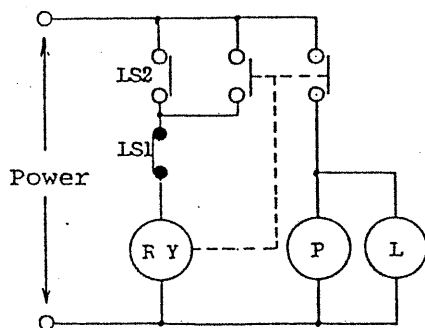

Fig. 3
- o An example of circuits when supply control is performed between the two contacts of upper and lower limit is shown in Fig. 3.